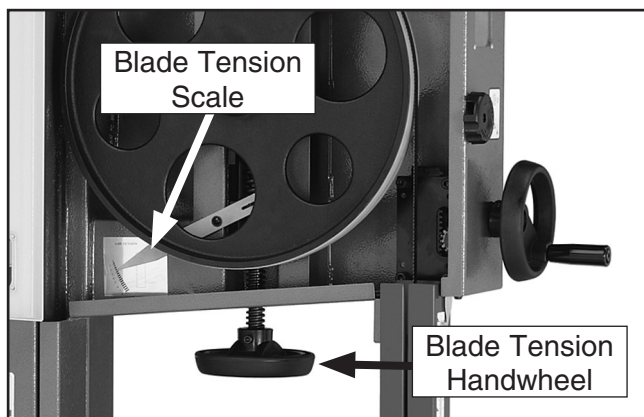

Figure 16. Blade tensioning controls.
3. Engage the quick tension lever and turn the blade tension handwheel until the tension scale (**Figure 16**) reads between 4 and 6.